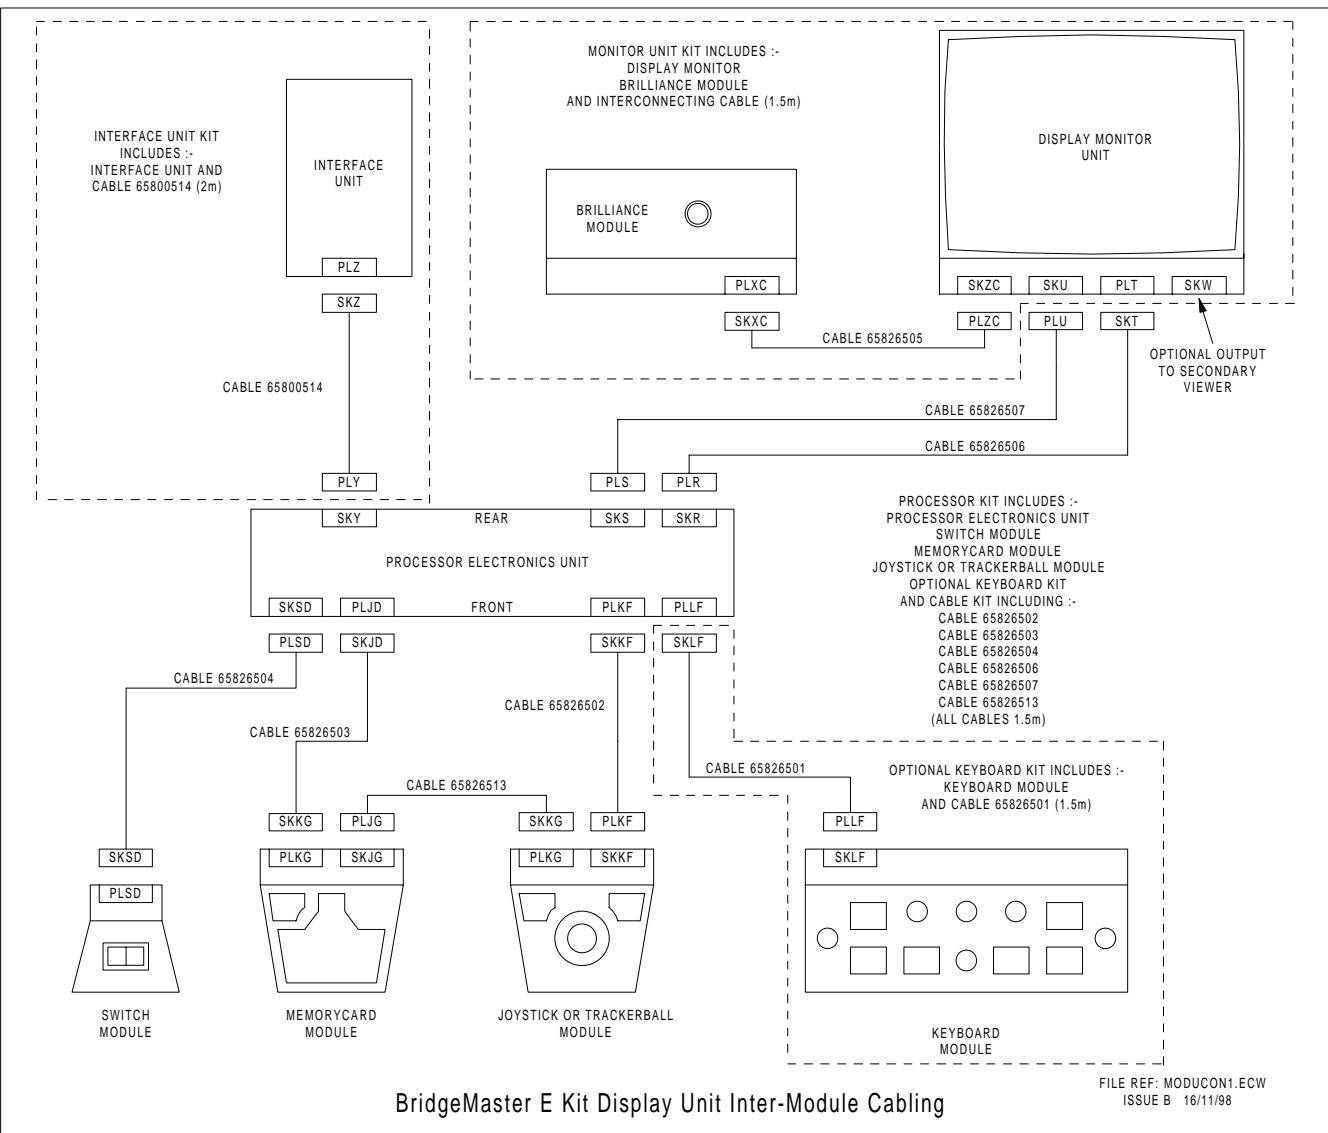

Figure 3.12 - Kit Display Unit Inter-Module Cabling
- Figure 3.12 Kit Display Unit Inter-Module Cabling